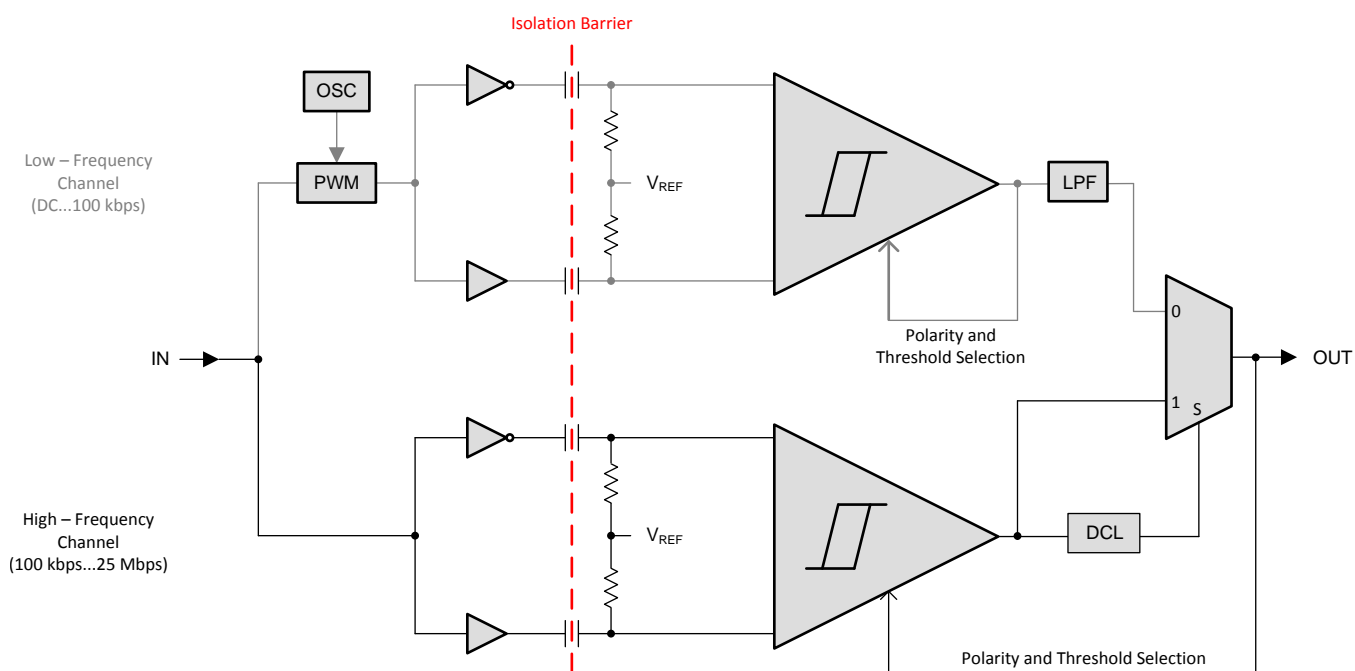

Figure 12. Conceptual Block Diagram of a Digital Capacitive Isolator
The isolator in Figure 12 is based on a capacitive isolation barrier technique. The I/O channel of the device consists of two internal data channels, a high-frequency (HF) channel with a bandwidth from 100 kbps up to 25 Mbps, and a low-frequency (LF) channel covering the range from 100 kbps down to DC.